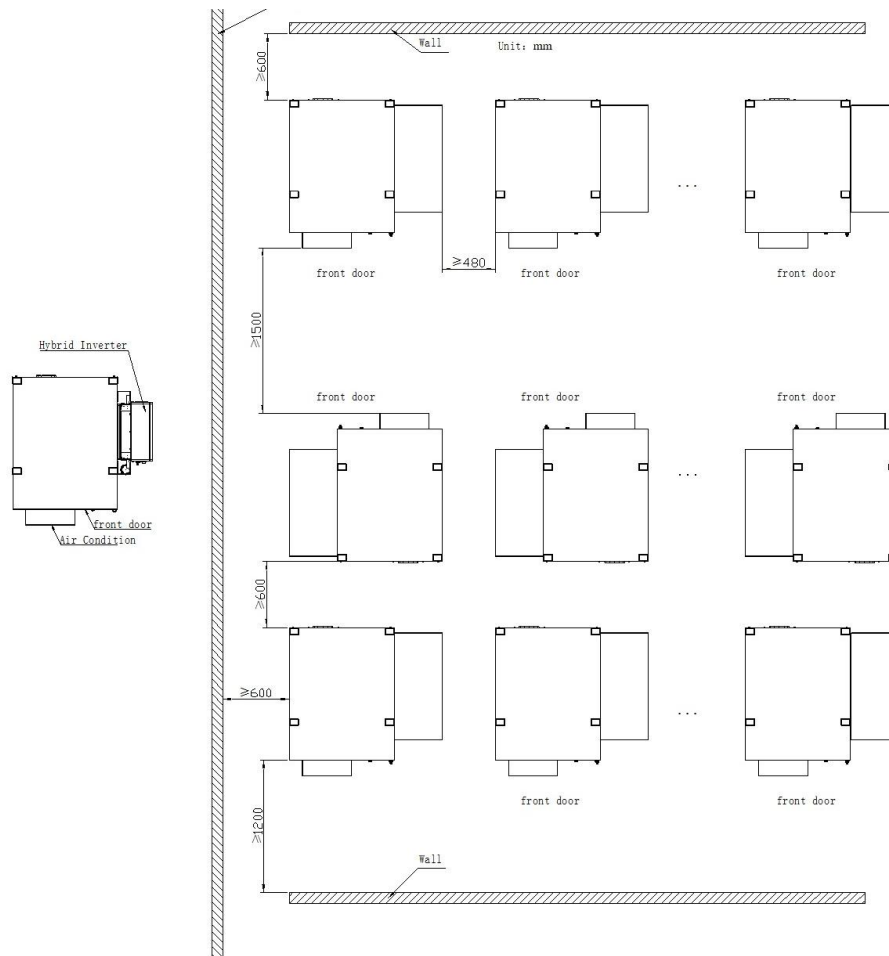

Figure 5-1 Product installation distance requirement
7. Select an open location according to the requirements of Figure 5-1 and ensure there are no